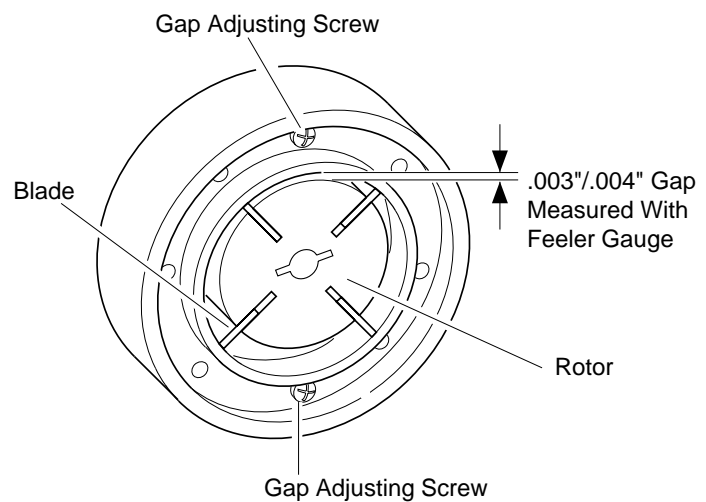

Figure 17 - Gap Adjusting Screw Locations
9. Check gap on rotor. Adjust to .076/.101 mm (.003"/.004") if needed (see Figure 17).